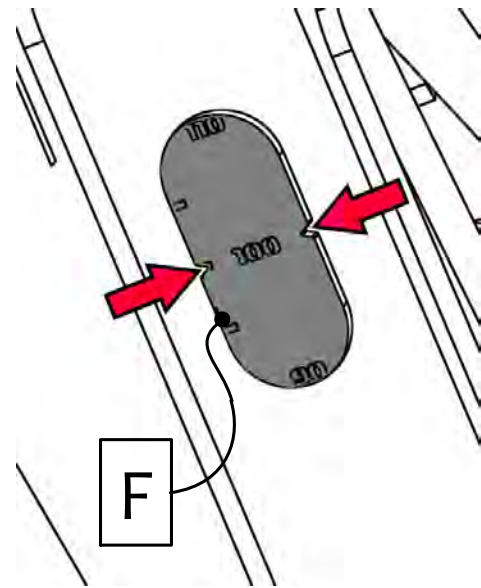

Fig. 5
The set pipe diameter must be read off the viewing window (F) on both sides of the device (Fig. 4). This setting value must be exactly in the area of the two opposite notches ( $\rightarrow\leftarrow$ ) (Fig. 5).